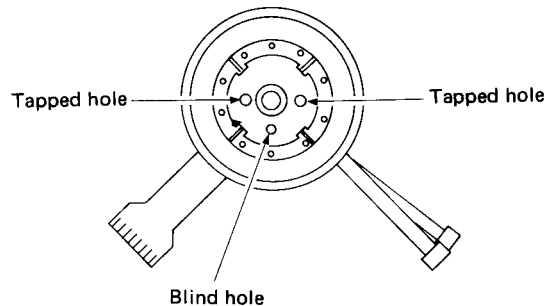

Fig. 2-4-4 Lower drum
5. When fitting the lower drum with a new upper drum being expanded, set the lower drum as its three holes are in the form of inverse triangle as shown in Fig. 2-4-4.